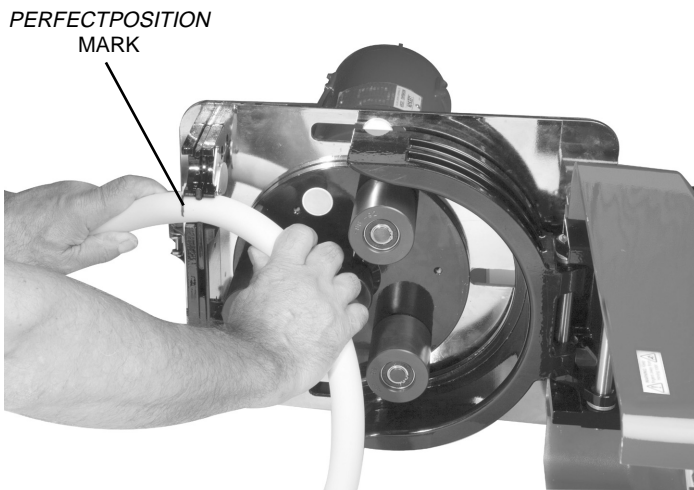

Figure 2. TUBING RETAINING POCKETS
3. Insert the tube in the appropriate upper tube retaining pocket (see Figure 2). Line up the "PERFECTPOSITION" placement marks printed on the tube with the outside edge of the retainer assembly (see Figure 3).